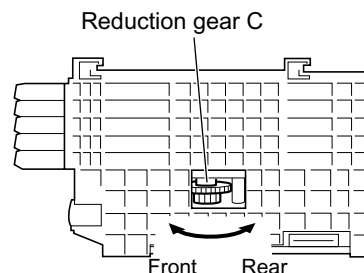

Figure 2
1. When CD is at play position, Rotate reduction gear C clock-wise as shown in Figure 2 Until disk tray is at stalk position, then rotate further to eject the disk tray so that CD can be removed from the tray.